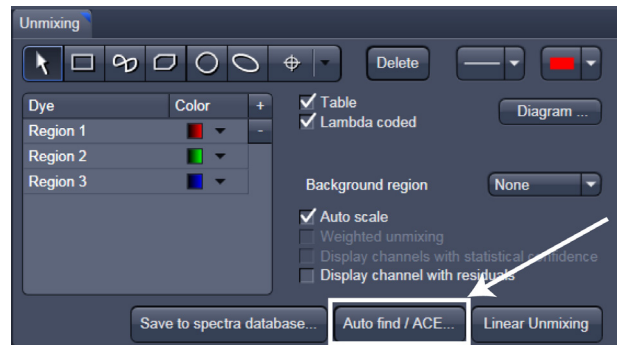

Fig. 582 Automatic Component Extraction function
- Click on the **Auto find / ACE...** button in the Unmixing View Option control tab (Fig. 582).
- When obtained spectra appear reasonable, unmix the data set by clicking the **Linear Unmixing** button (Fig. 582).